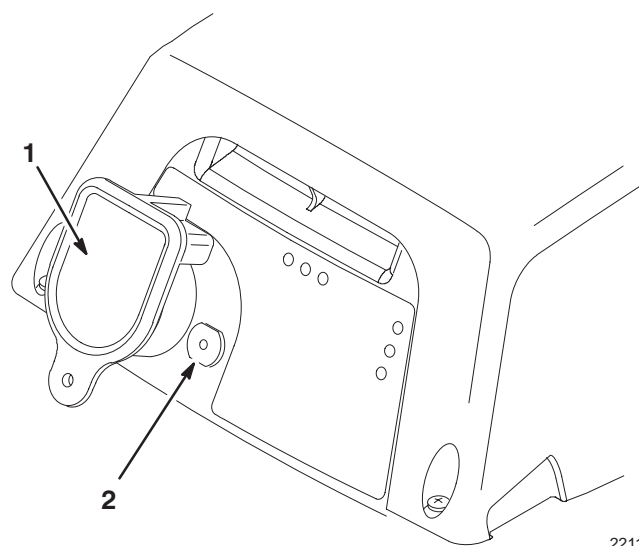

Figure 15
1. Remove key from plug receptacle (Fig. 15).
2. Wait 30 seconds to 1 minute before pushing in circuit breaker button (Fig. 15).